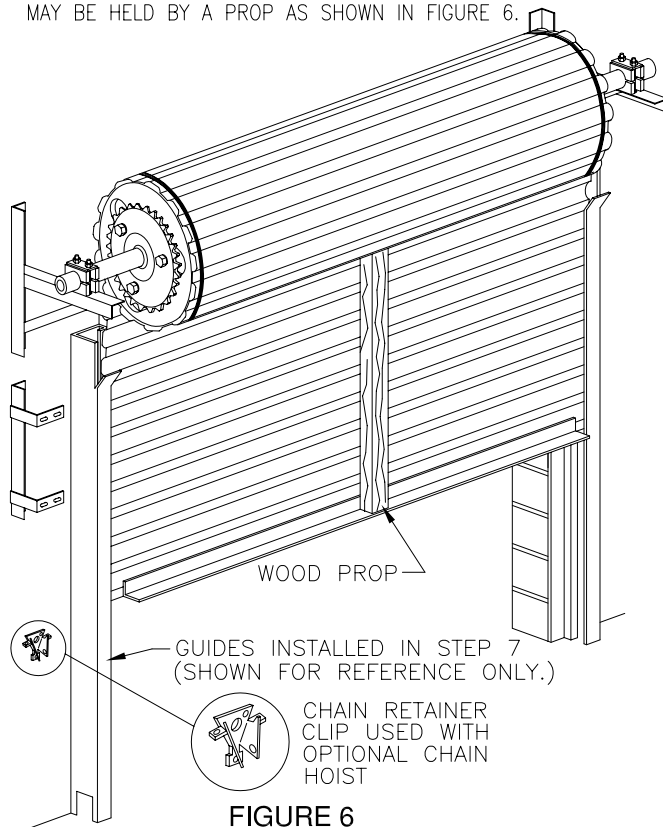

FIGURE 6
- 6A CUT THE BANDS THAT HOLD CURTAIN, THEN LOWER THE DOOR NO FURTHER THAN HALF WAY (SEE FIGURE 6) (DO NOT LET GO OF DOOR).
- 6B THE DOOR MAY HAVE A STRONG TENDENCY TO RAISE OR LOWER AND CAUSE DAMAGE. THEREFORE, IT MUST BE SECURELY HELD FROM TURNING UNTIL GUIDES AND HEAD STOPS ARE INSTALLED. THE DOOR MAY BE HELD BY A PROP AS SHOWN IN FIGURE 6.